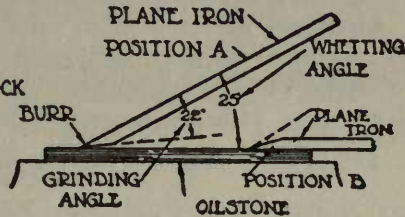

Fig. 28.
2. In the case of plane irons and chisels, whet on the beveled side until a slight "burr" can be felt on the flat side. (See position A, Fig. 28.)
The whetting angle should be slightly greater than the grinding angle as shown in position A, Fig. 28.
Be sure that the plane iron or chisel is flat down upon the stone, as shown in position B, Fig. 28. Why?